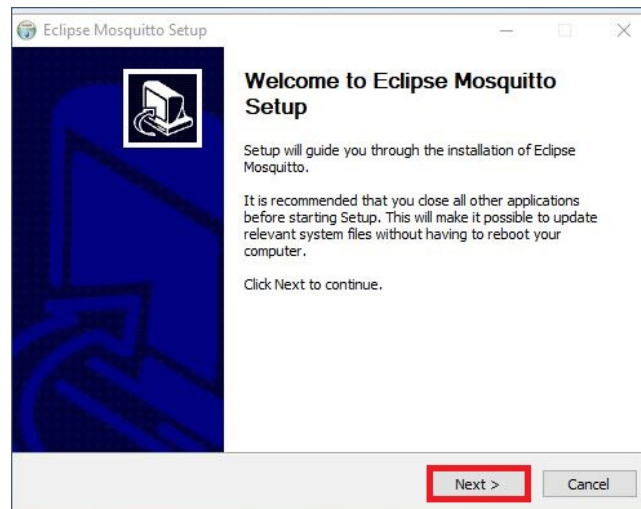

Figure 4.5: Start of Fast Mode installation
- Click "Next >" to begin the installation, as shown in Figure 4.5.